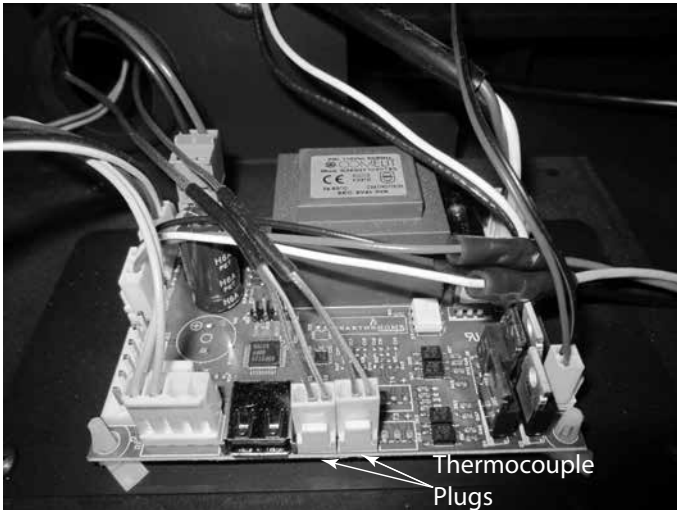

Figure 4.5 Control Board
- Remove the thermocouple wire that needs replacing from the control board by pulling up on it and feeding it back through the grommet. See Figure 4.5.